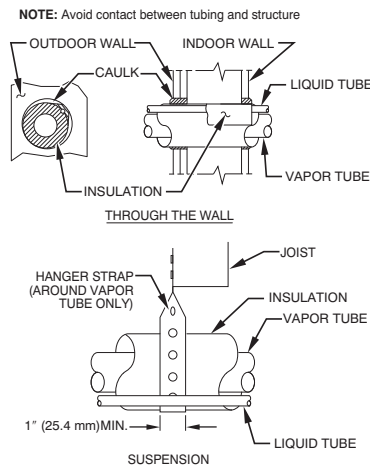

Fig. 1 – Connecting Tubing Installation
5. When passing refrigerant tubes through the wall, seal opening with RTV or other pliable silicon-based caulk. (See Fig. 1.)
7. Do not suspend refrigerant tubing from joists and studs with a rigid wire or strap which comes in direct contact with tubing. (See Fig. 1.)
9. When necessary, use hanger straps which are 1 in. (25.4 mm) wide and conform to shape of tubing insulation. (See Fig. 1.)